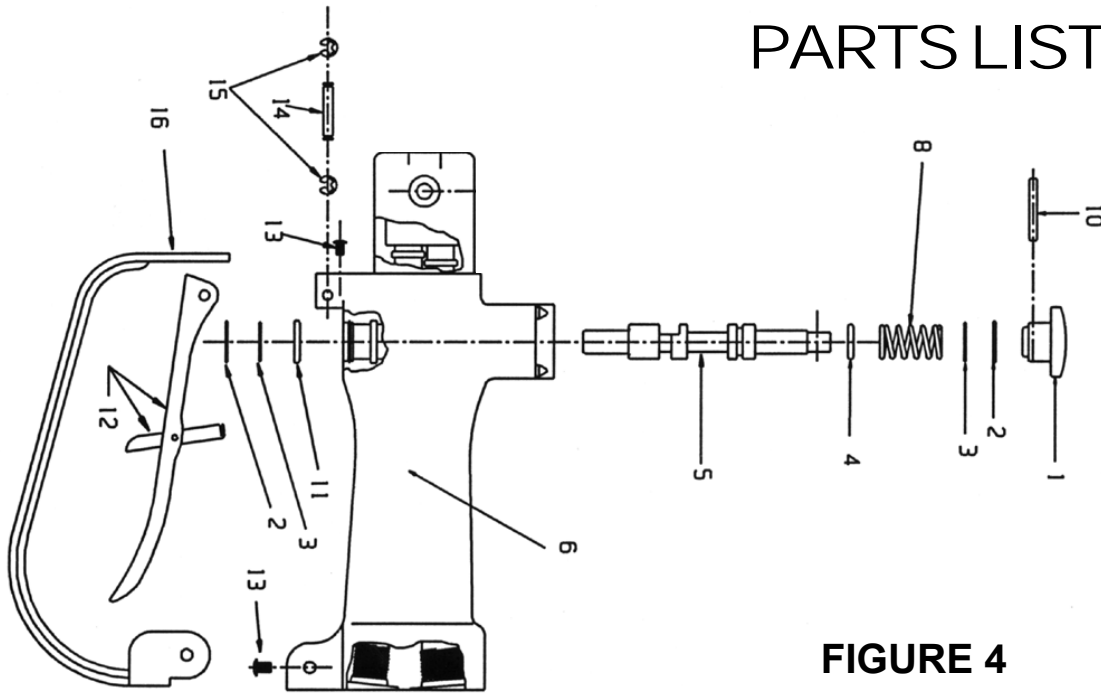

FIGURE 4
(Refer to Figure 4, Page 16)
Removal of Inner Tubes (5 and 6) from Outer Tube (3). Pull inner tubes from outer tube. Three O-rings (7) have been twisted into a figure 8 and slid over the two-tube assembly to hold the two tubes together and in alignment. Make sure that they are aligned properly. The inner tubes as depicted in Fig. 4 show the relative position of the pressure and return tube to the other components. Be sure that the inner tube assembly is in the position shown relative to the valve and the motor head.
Tie the two inner tubes together with the three O-rings (7) twisted in a figure 8 configuration. The pressure tube (6) is marked with blue ink on each end. The return tube (5) has no marking. As shown in Fig. 4, the pressure tube closest to the bottom of the page. The return tube is shown above the pressure tube. Tubes must be fitted into the Rear Tube Support (8) with the O-ring around its end (shown on the right.)
(See Figure 4, Page 16)